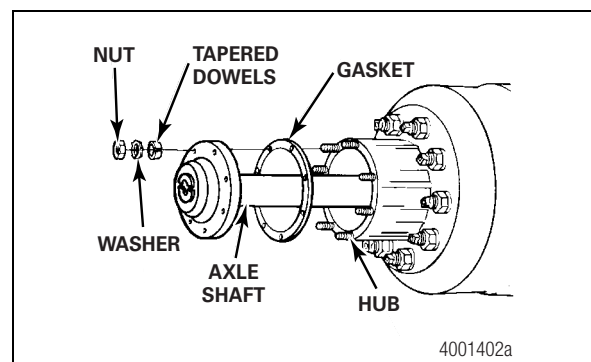

Figure 5.3
12. Install the tapered dowels at each stud and into the axle shaft flange. Use a punch or a drift and hammer if necessary. Figure 5.3.